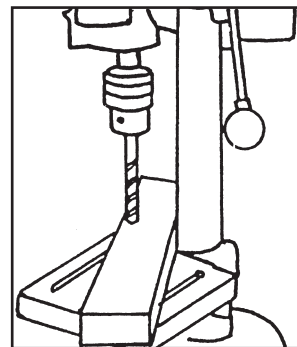

Figure 6
- Insert the drill into the jaws of the chuck approximately 1", ensuring that the jaws do not touch the flutes of the drill. Before tightening the chuck, ensure that the drill is centered within the jaws. Refer to **Figure 6**.